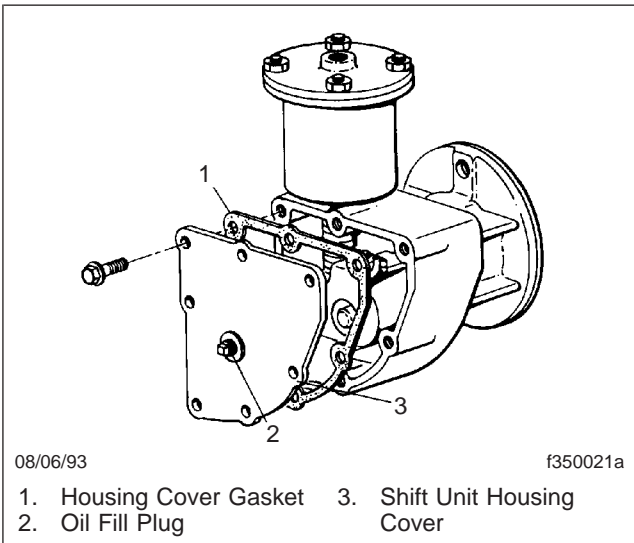

Fig. 3, Two-Speed-Axle Shift Unit
1. Clean the shift unit oil fill plug, and area surrounding it. See Fig. 3. Remove the fill plug.